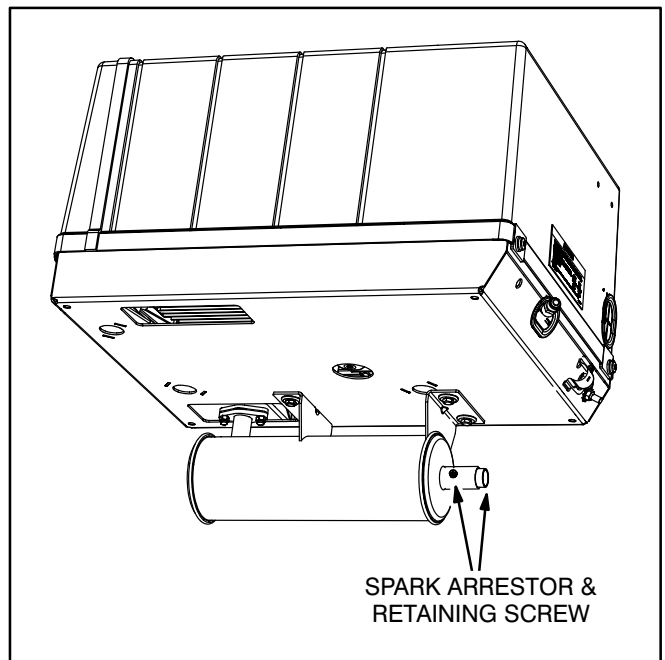

FIGURE 3-5. SPARK ARRESTOR
1. Unclamp the tailpipe from the muffler (Figure 3-5).